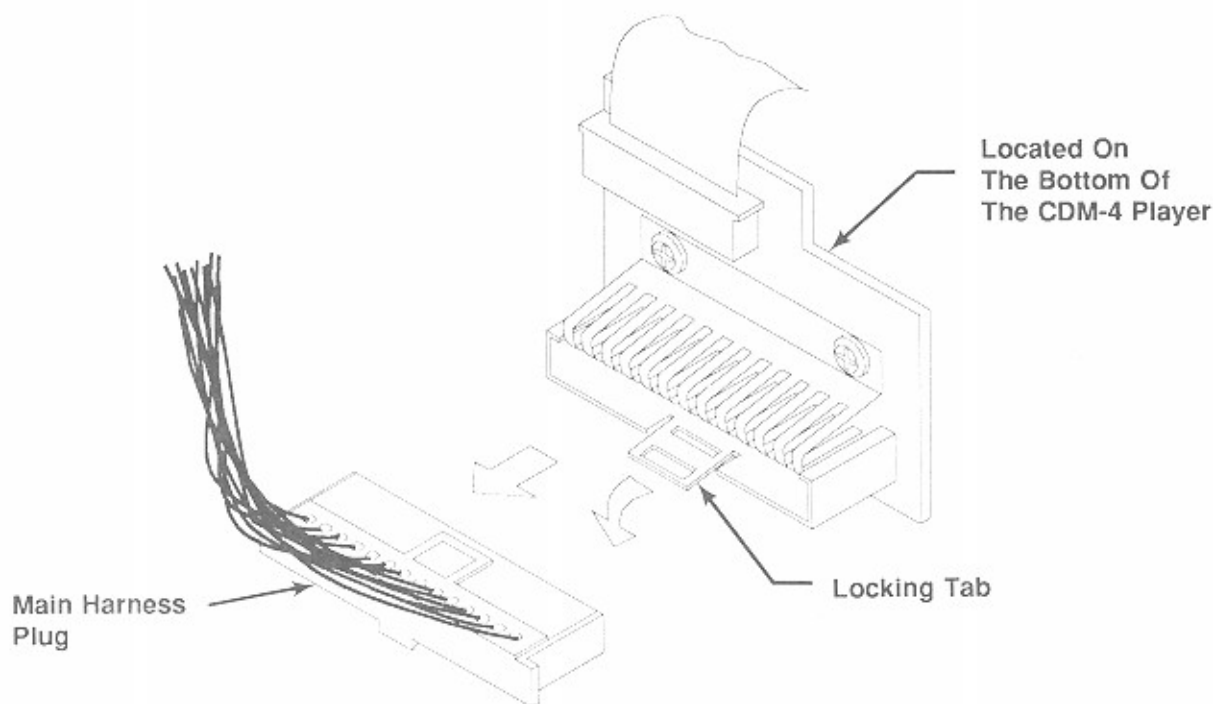

Figure 6-2B. Disconnecting The Main CD Player Harness
4. Refer to *figure 6-2B*. Remove the main CD harness, which is on the bottom of the CD player as follows: